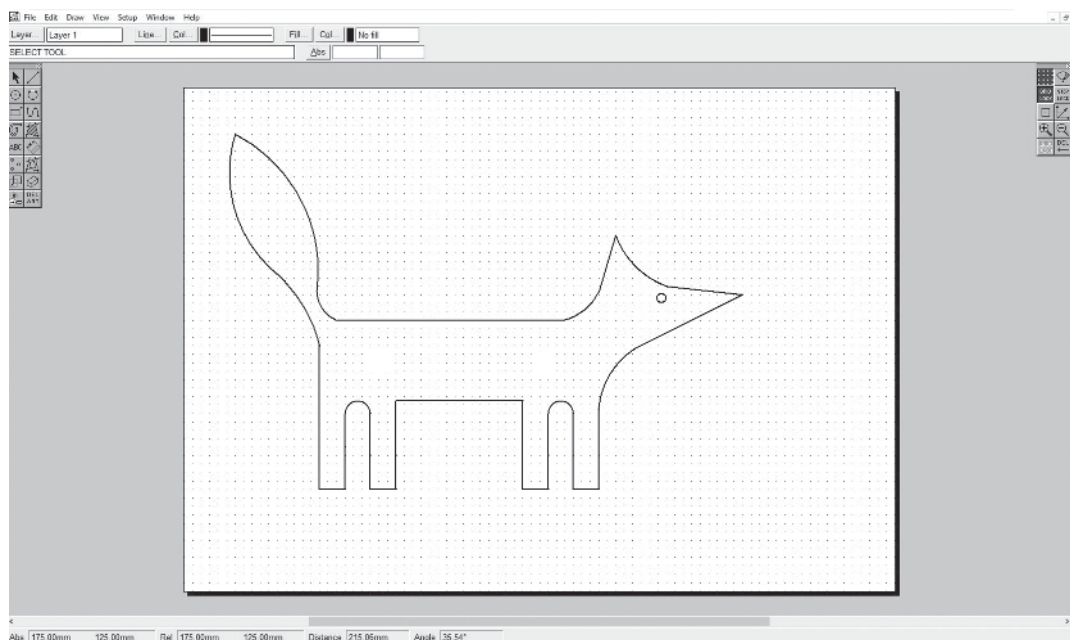

Fig. 12.4
- (c) Fig. 12.4 shows a screenshot of the outline shape of the coat hook drawn using CAD software. When using CAD, changes to a design can be made quickly and accurately.